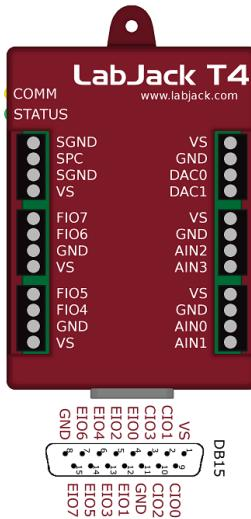

Figure 4.1-1. LabJack T4
- Communication Edge:** The communication edge (top edge in Figure 4.1-1) has a USB Type-B connector and an RJ45 Ethernet connector. Power is always provided through the USB connector, even if USB communication is not used.